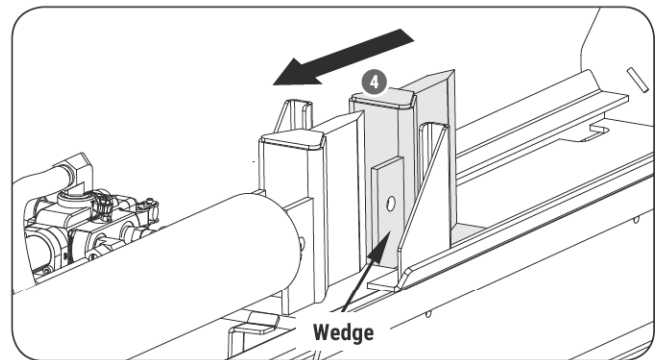

Figure 7b
2. Pull the wedge back. (See **Figure 7b.**)